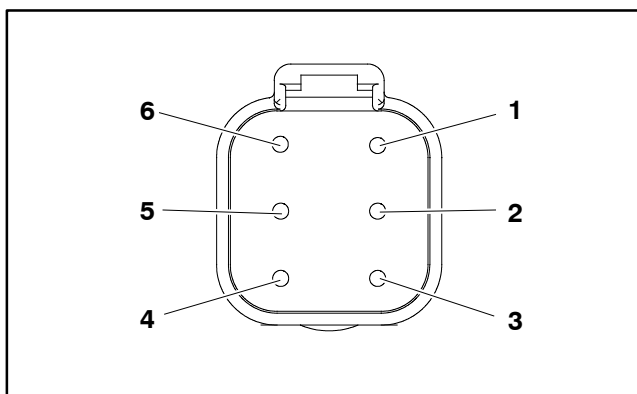

Figure 65
5. The protection diode (Fig. 65) can be tested using a digital multimeter (diode test or ohms setting) and the table to the right. Replace the protection diode if testing determines that it is faulty.